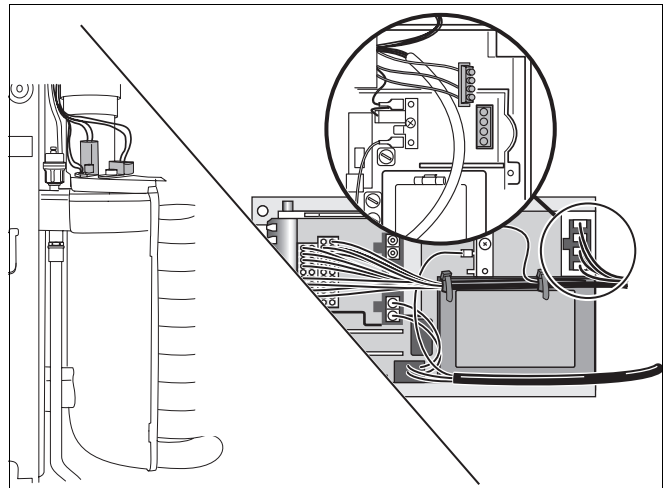

Fig. 56 Disconnect the plug-in cable from the UBA housing
- Unplug hot surface ingitor connection cable from UBA (fig. 56).